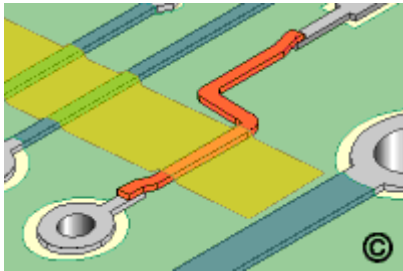

Fig. 3.15
3. Form circuit track to match conductor path (Fig. 3.15)